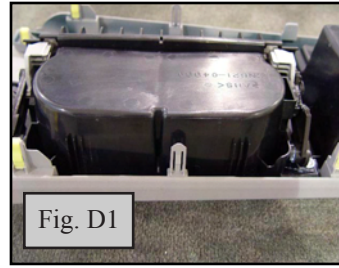

Fig. D1
1. Orient cup holder assembly as shown. (Fig. D1)